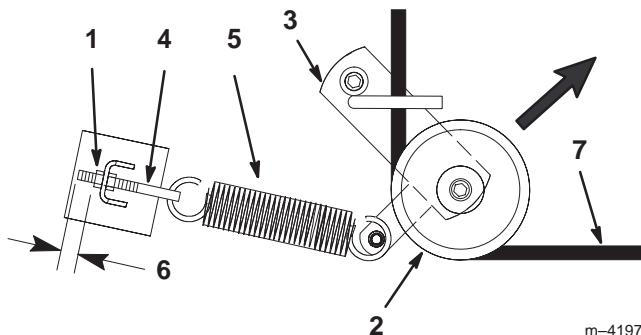
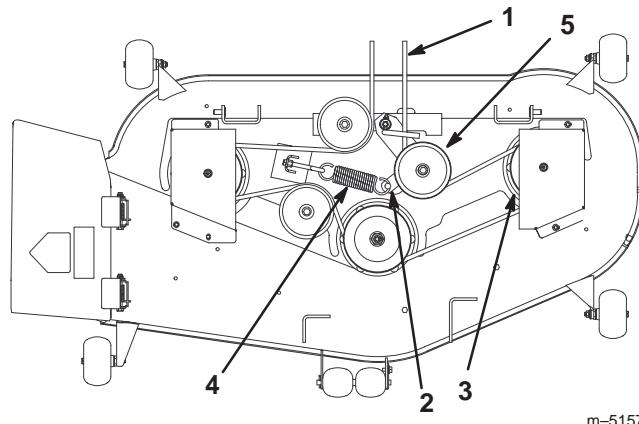

Figure 43
Figure 44
4. Pull the idler pulley in the direction shown in Figure 43 and roll the belt off of the pulleys.
5. Route the new belt through the idler arm and around the idler pulley (Fig. 43).
6. Pull the idler pulley in the direction shown in Figure 43 and route the belt onto the other pulleys (Fig. 44).
**Note:** Check to ensure that the length of exposed thread on the spring eye bolt is 1/8 in. (3 mm) (Fig. 43).